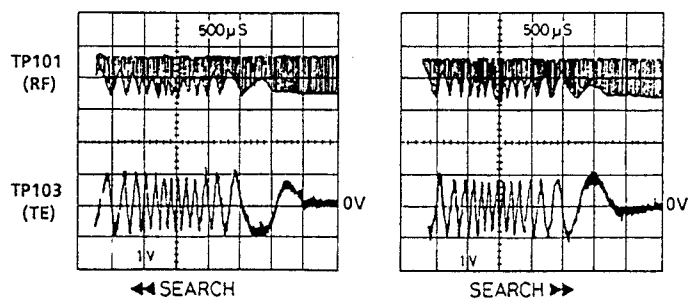

Fig.1
- ① Connect the oscilloscope to TP103(TE), TP104(E).
- ② Turn on the power of the unit.
- ③ Insert Test Disc and press the Play button.
- ④ Continuously press the forward(or reverse) search button.
- ⑤ Adjust SVR11 so that the waveform of TP103(TE) is vertically symmetrical relative to DC0V level. (Refer to fig.1.